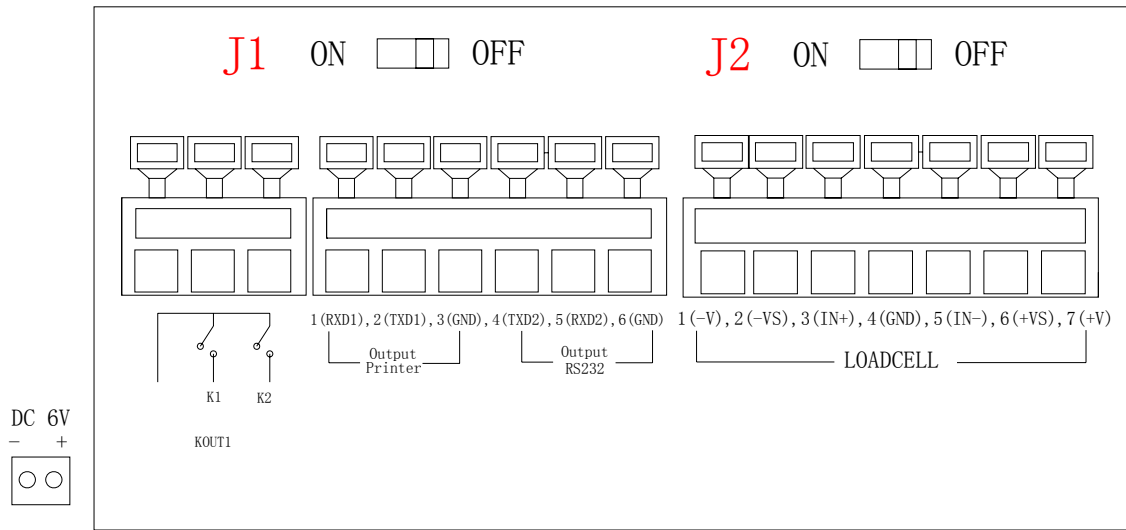

Fig. 2-1 Sockets on Circuit Board
2.5 COMM : Serial Communication port (see Fig. 2-1)